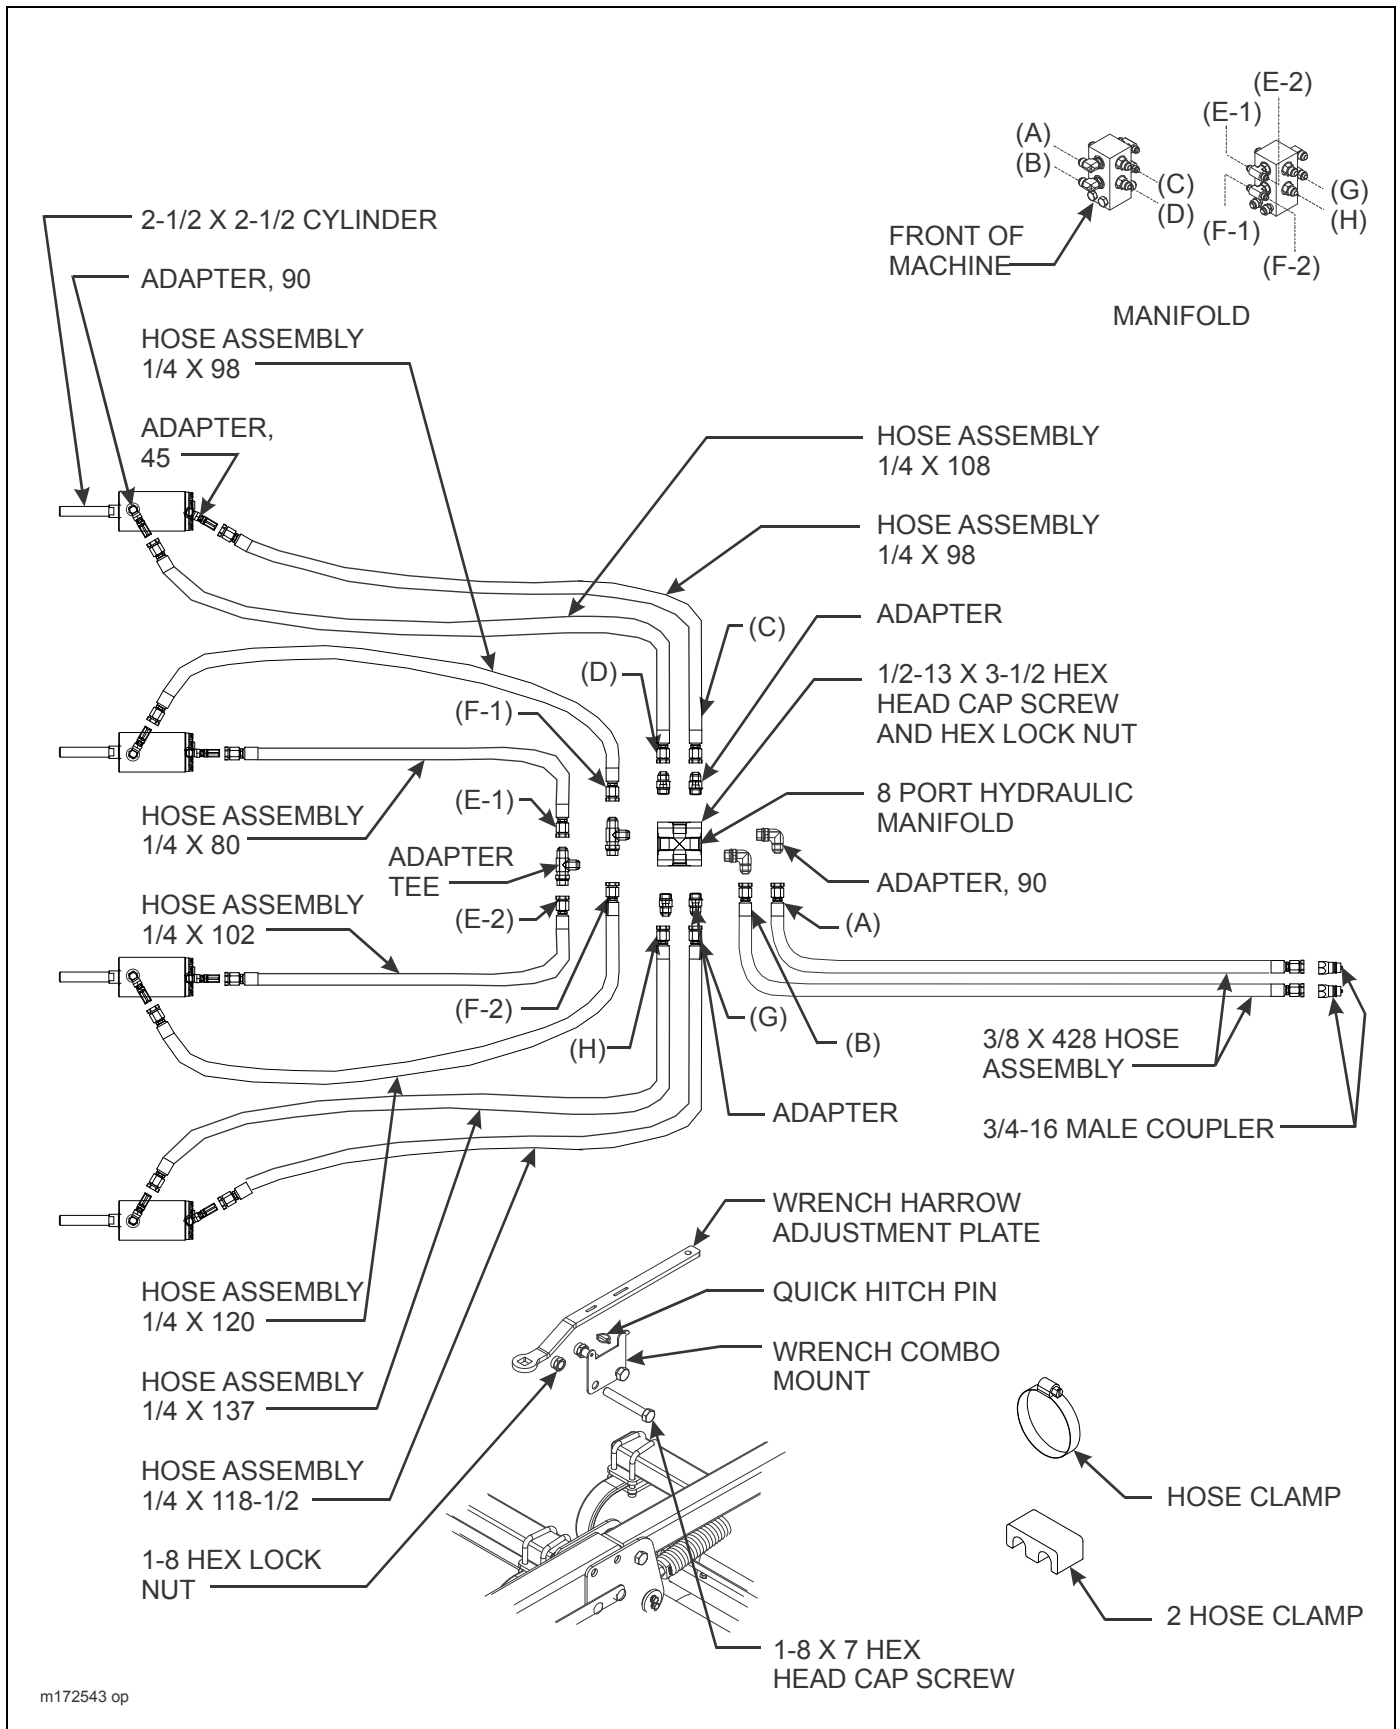

Figure 3-19: Finishing Combo w/ Reel Hydraulic Installation (2410-6-24)
Refer to **Figure 3-19** for hydraulic diagram for the 2410-6-24 model.
3. Install fittings into manifold according to **Figures 3-19 thru 3-21.**
4. Install hoses per **Figures 3-19 thru 3-21.**